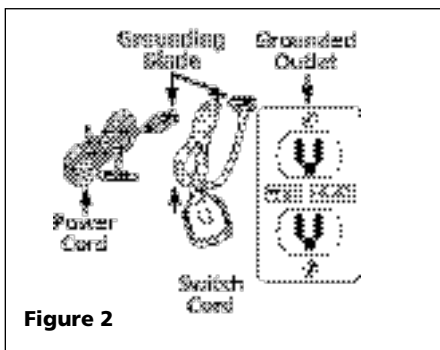

Figure 2
3. Insert the pump power cord plug directly into the back of the float switch cord plug (See Fig. 2).